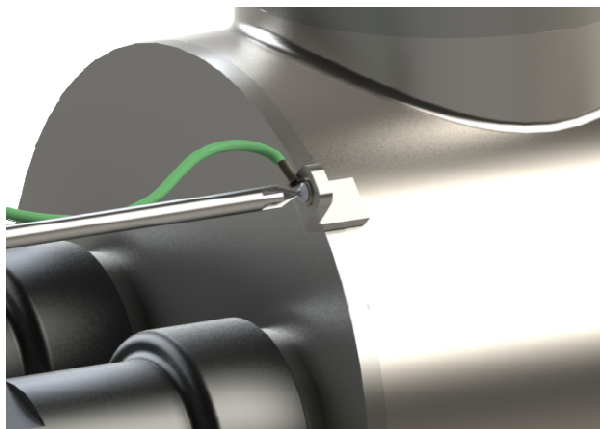

Figure 10. Ground Screw Connection
Step 16: Affix the captive ground screw to the ground lug on the UV reactor to ensure proper grounding continuity (see Figure 10).